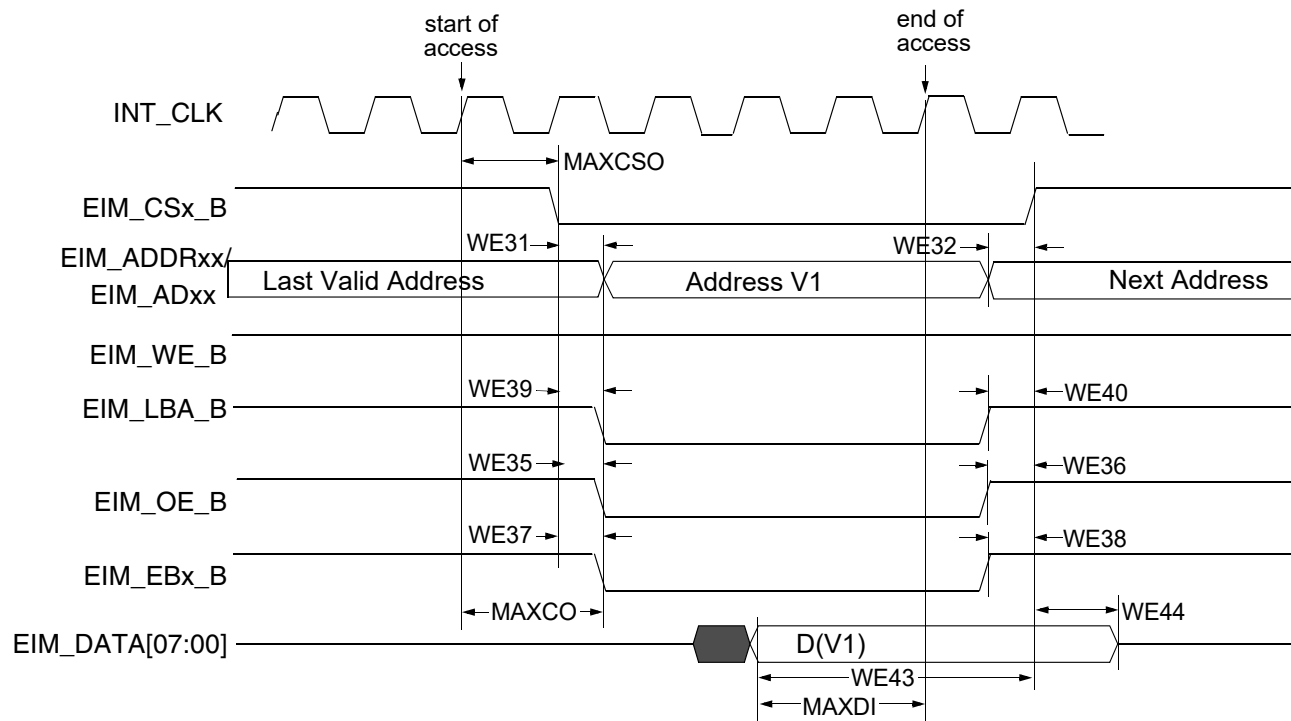

Figure 18. Asynchronous Memory Read Access (RWSC = 5)
Figure 18 through Figure 22 and Table 42 provide timing parameters relative to the chip select (CS) state for asynchronous and DTACK EIM accesses with corresponding EIM bit fields and the timing parameters mentioned above.
Asynchronous read and write access length in cycles may vary from what is shown in Figure 18 through Figure 21 as RWSC, OEN & CSN is configured differently. See the i.MX 6DualPlus/6QuadPlus reference manual (IMX6DQPRM) for the EIM programming model.